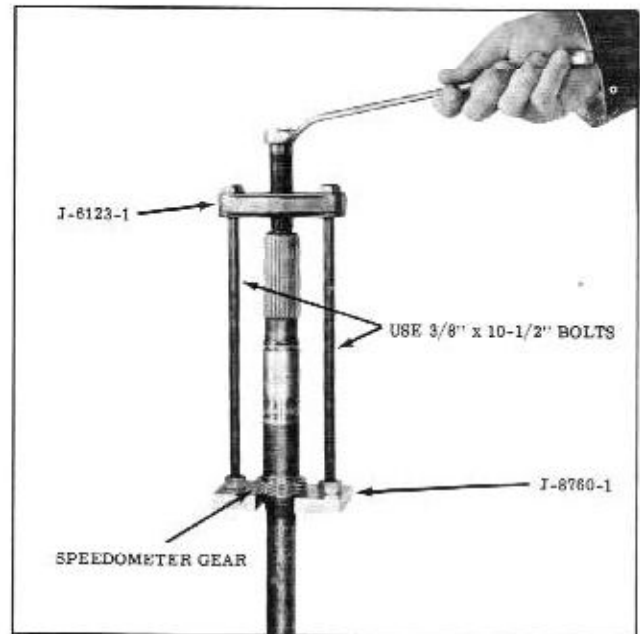

Figure 3-35 Removing Speedometer Drive Gear
8. Engage parking pawl, then using Speedo Gear Puller J-6123-1 and 2 machine bolts 3/8 x 10-1/2 USS, remove the speedometer drive gear from the output shaft. (Fig. 3-35)